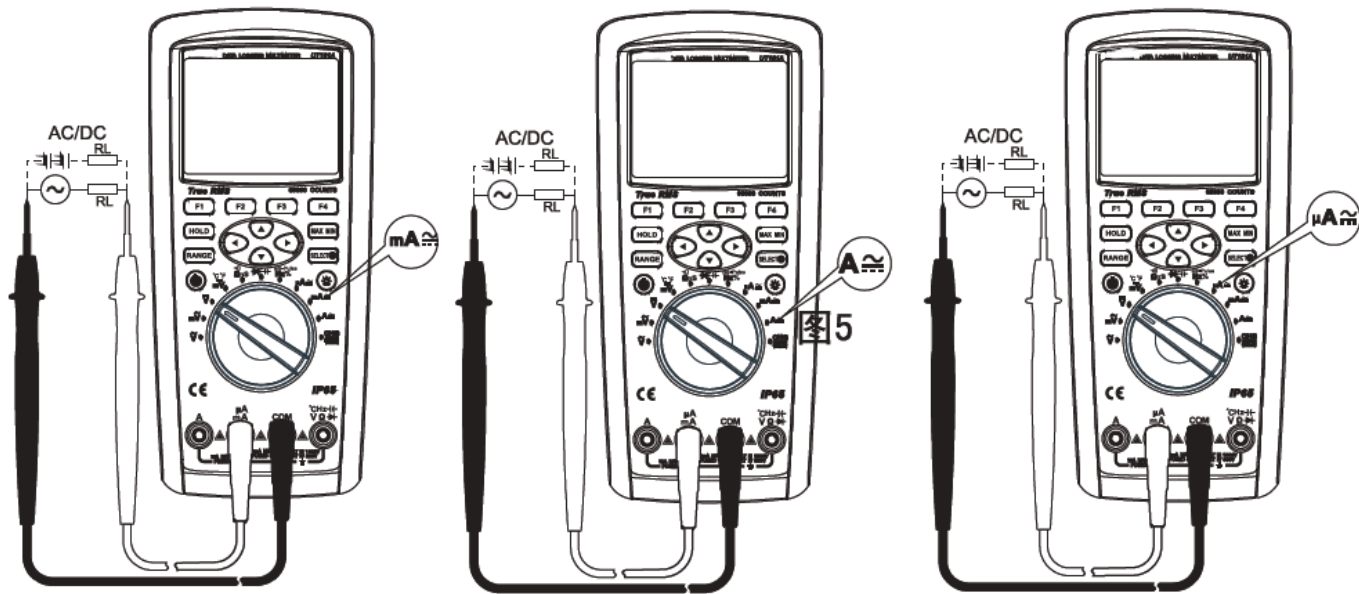

Figure 7
- 2) Set the rotary switch to the position as shown in Figure 7. Press the key “SELECT” to measure either AC or DC. Connect the test leads to the test circuit in series.